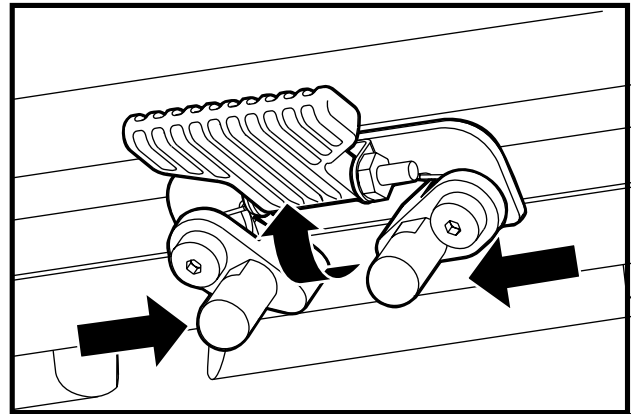

Figure 13. Seat Latch Safety
4. Flip up the seat latch safety. See figure 13.